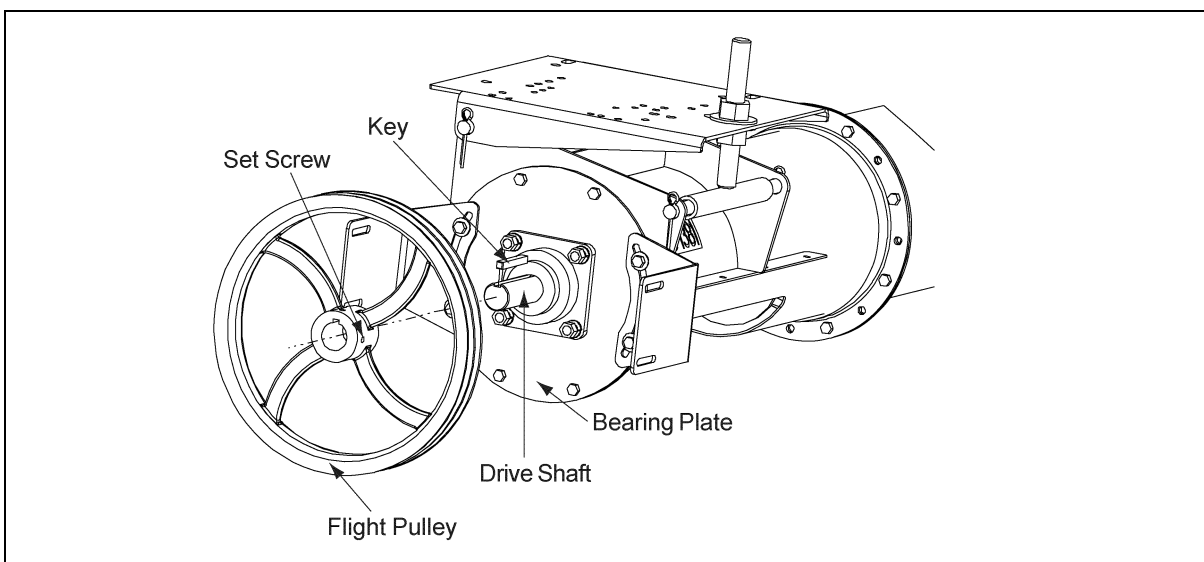

Figure 4I
- C. Once the pulley is appropriately positioned, tighten the setscrew with a hex head wrench to secure it to the drive shaft. (See Figure 4I).